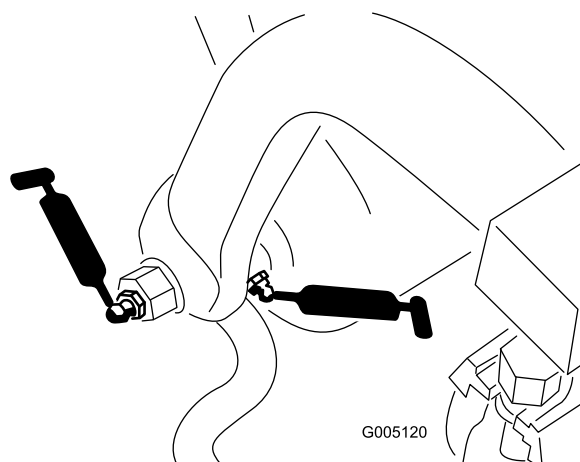

Figure 27
- Pull frame shaft and roller (12) (Figure 27)